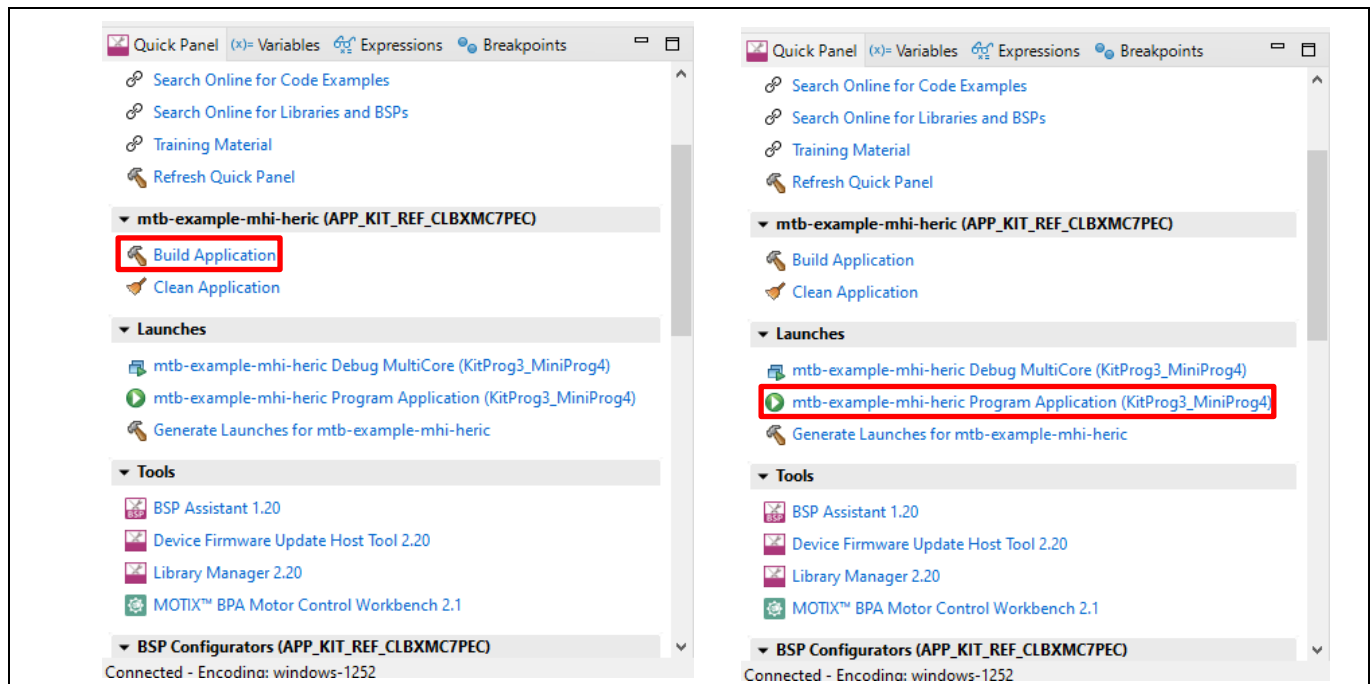

Figure 35 ModusToolbox™ - Build Application
6. Select **Build Application** and click **Play** to launch the program (Figure 35).